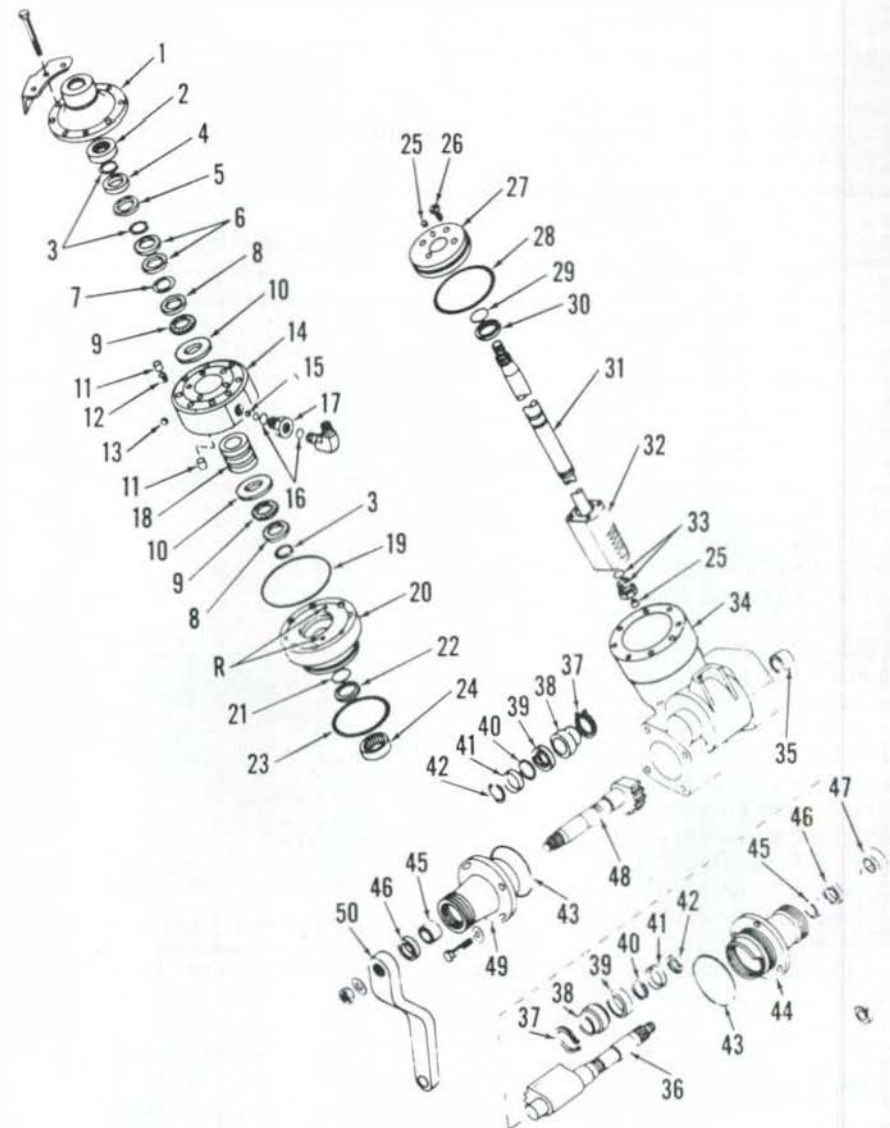

Fig. 12—Exploded view of power steering gear available on all MF230 models, all MF235 models except Orchard end MF245 Vineyard models.
**12. OVERHAUL.** To overhaul the removed unit, unbolt right side pinion housing (49—Fig. 12) and remove pitman shaft (48), housing (49) and related parts. Turn unit over and drain oil from housing, then unbolt and remove the left pinion housing (44), pitman shaft (36) and related parts. Mark control valve head (1), valve body (14), bearing housing (20) and steering gear housing (34) before disassembly to facilitate correct reassembly. Unbolt and remove control valve housing, head, bearing housing, steering shaft and rack unit. Unscrew piston (27) and rack (32) as a unit from shaft (31), then remove bearing housing (20).
To disassemble control valve and steering shaft, use caution and carefully identify parts as they are removed. Some parts used may be slightly different than shown in Fig. 12. Remove top snap ring (3), washer (4) and seal (5). Remove second snap ring (3) and lift parts (6,7,8,9 and 10) from shaft. Remove valve body (14) from valve spool (18). Be careful not to lose or damage parts of plungers (11). Remove return fitting and adapter (17), being careful not to lose check ball (15).
Inspect all parts for wear or damage and renew if necessary. Install new seal (2—Fig. 12) in head (1) with lip of seal towards valve body and end of seal flush with edge of housing bore. Press new bushings (35 and 45) into housings until flush to 0.8 mm (1/32 inch) below flush with outer edge of bore. Lips of seals (46) should face inward. Some models use a washer and snap ring to retain seals (46) in housings. When renewing "O" rings (21 and 29) and seals (22 and 30) in bearing housing, be sure "O" rings are installed under the seal rings.
to place. Install washer (4—Fig. 12) with chamfer down over snap ring. Install top snap ring (3). Remove piston and rack from shaft.
Assemble parts (37, 38, 39, 40, 41 and 42—Fig. 12) onto pitman shafts before installing shafts into pinion housing. Adjust thickness of shims (40) as necessary to remove all end play from bearing (39).
Adjust gear backlash as follows: Rotate the right pinion housing (49—Fig. 12)